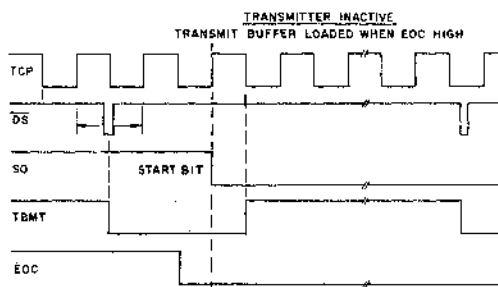

Fig.28 TRANSMITTER AT START BIT
- NOTE. SEE FIGURES 28, 29, 30 FOR DETAILS.